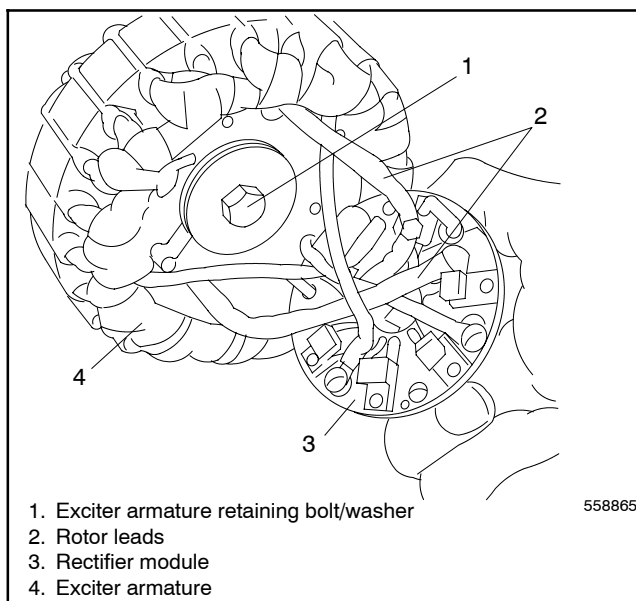

Figure 4-8 Armature Removal
- c. Disconnect the main field rotor leads from the rectifier module positive/negative terminals. Remove the exciter armature retaining bolt and washer. See Figure 4-8.
- d. Remove the exciter armature from the shaft, guiding the rotor leads through the open spaces in the exciter armature windings. See Figure 4-8.